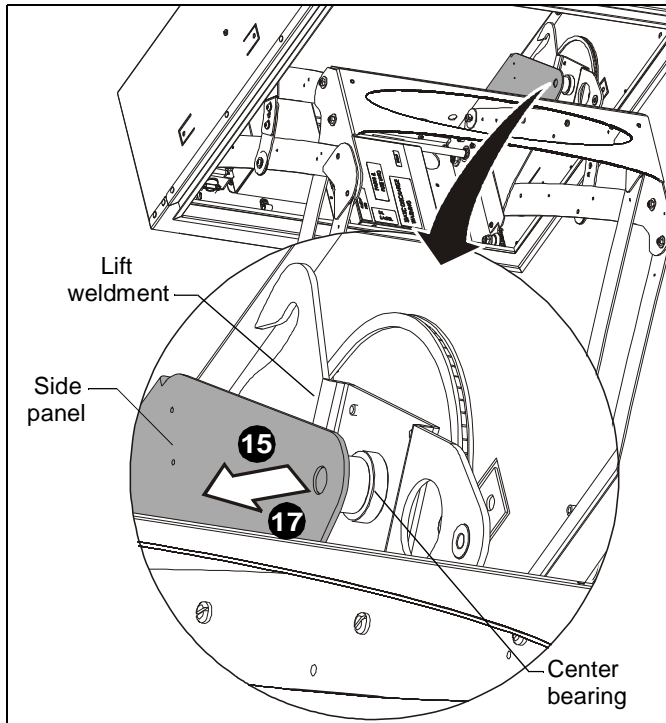

Figure 8
14. Insert pry bar behind main frame side panel (shown as gray). (See Figure 8)
15. Pry side panel towards center of lift, far enough for attached shaft to come all the way out of center bearing on lift weldment. (See Figure 8)
17. Use pry bar to move side panel far enough to allow lift weldment to slide out towards front of lift. (See Figure 8)